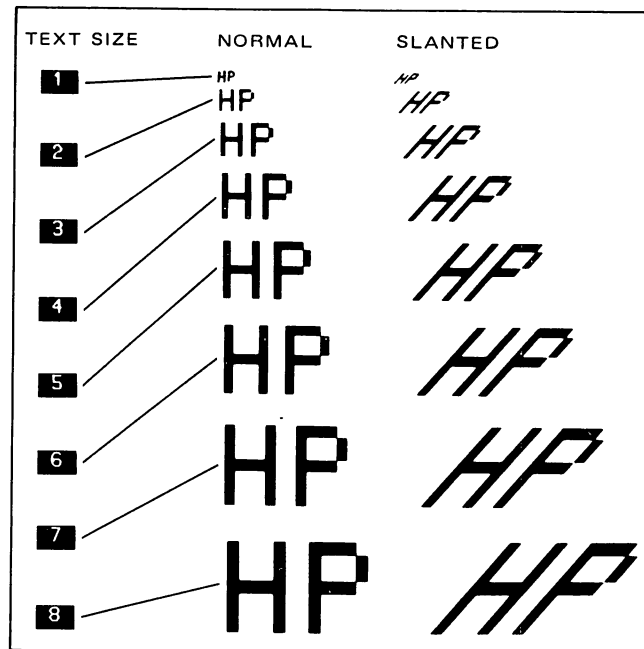

Figure 3-15. Graphics Text Sizes
**SIZE.** The ASCII characters 1 through 8 specify the character size for graphics text. A "1" indicates the smallest character, a 5 by 7 dot matrix character in a 7 by 10 cell. Increasing the size increases the size of the dots. If a text size of 1 is specified, each dot in the cell is one dot on the screen. A size of 2 uses 4 screen dots for each character dot (2 X 2), and so on (see figure 3-15). A size of "1" is the default.